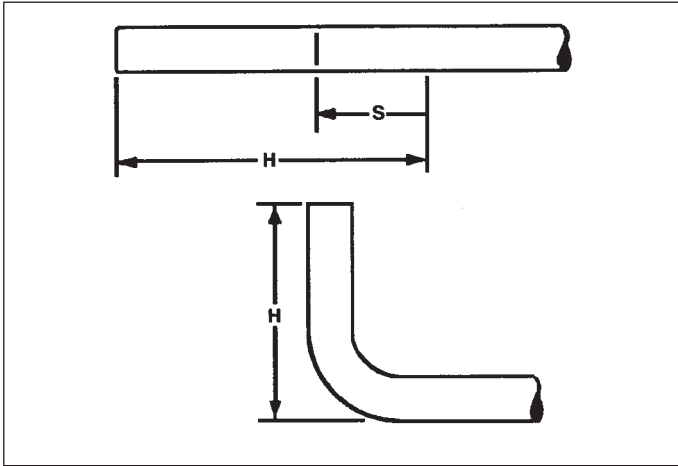

Figure 1
1. Mark desired turn-up dimension (H) on straight length of thinwall. (See Figure 1.)